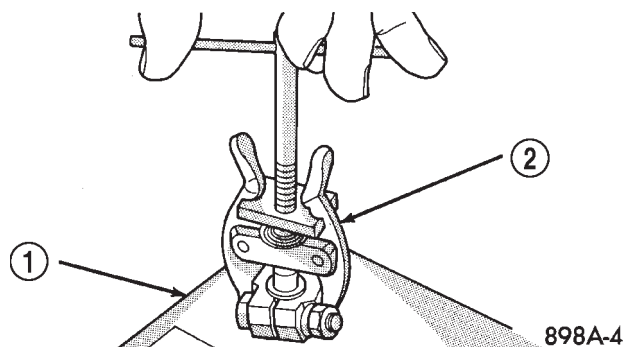

Fig. 15 Remove Battery Cable Terminal Clamp - Typical
(1) Turn the ignition switch to the Off position. Be certain that all electrical accessories are turned off.
(2) Loosen the battery negative cable terminal clamp pinch-bolt hex nut.
(3) Disconnect the battery negative cable terminal clamp from the battery negative terminal post. If necessary, use a battery terminal puller to remove the terminal clamp from the battery post (Fig. 15).